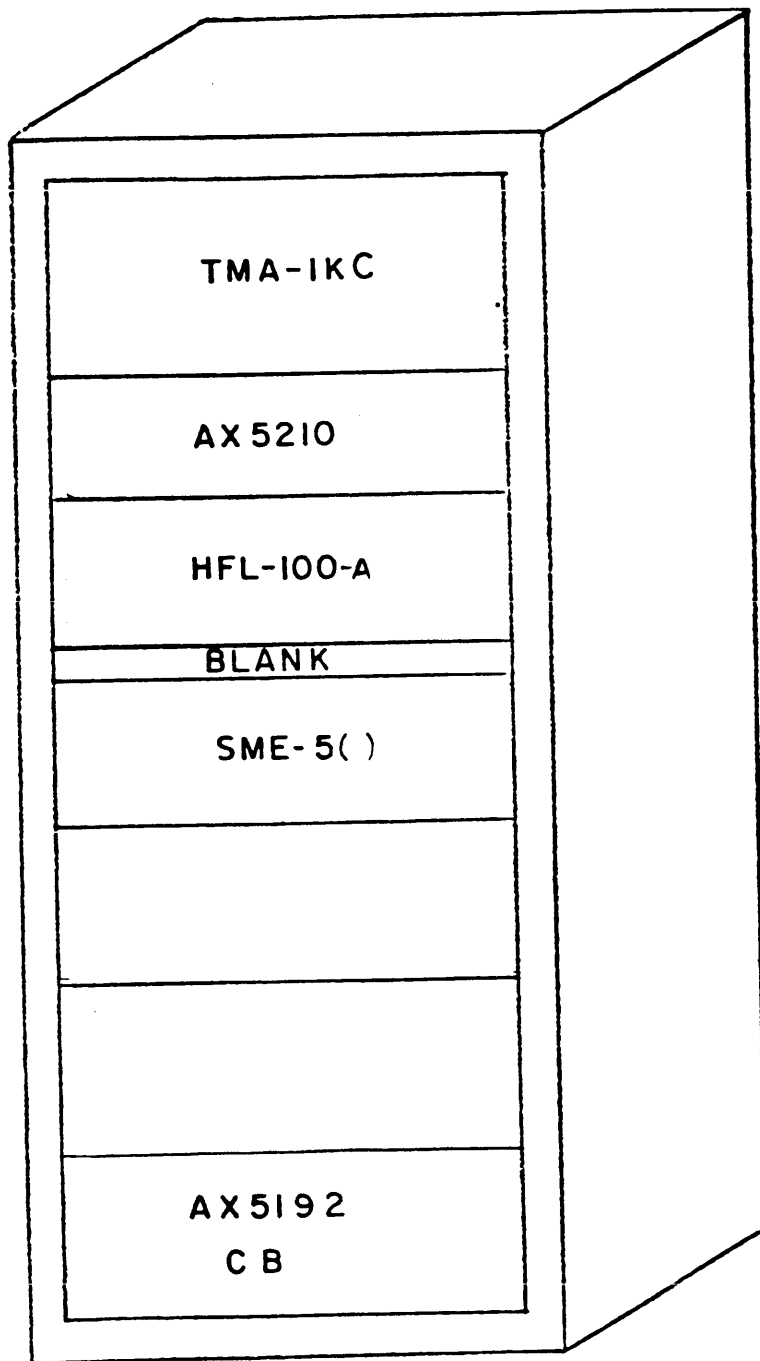

FIG. 2-1 MODULAR COMPONENTS
The GPTR-1KC4/E5 transmitter is housed in a single 4 foot cabinet (See figure 2-1). The main modular units that make up the system are slide mounted for ease of maintenance. The modulars are linear power amplifier, TMA-1KC, Fan Assembly AX5210, High Gain Amplifier HFL-100A, exciter SME-5( ), and main AC circuit breaker panel. Two fans are mounted on top of cabinet to exhaust heat from cabinet.
b. UNIT INSTALLATION. The tracks for the slide mountings which support the modular components of the transmitter are already mounted in the cabinet. It is therefore, a simple task to slide the units into the correct position as shown in figure 2-1.